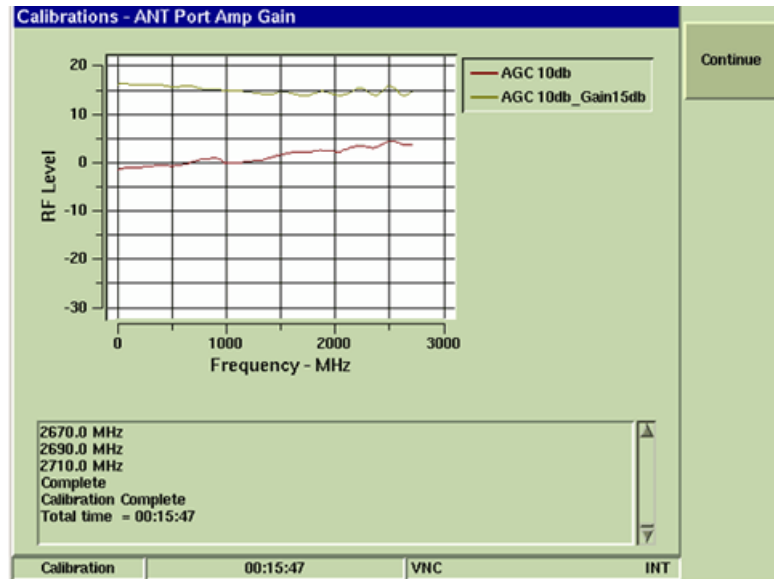

Fig. 4-23 ANT Port Amp Gain Signal Trace
- When the ANT Port Amp Gain Calibration Procedure is complete, verify Calibration Complete is displayed in dialog box. Verify signal traces on Test Set resemble signal traces shown in Fig. 4-23.